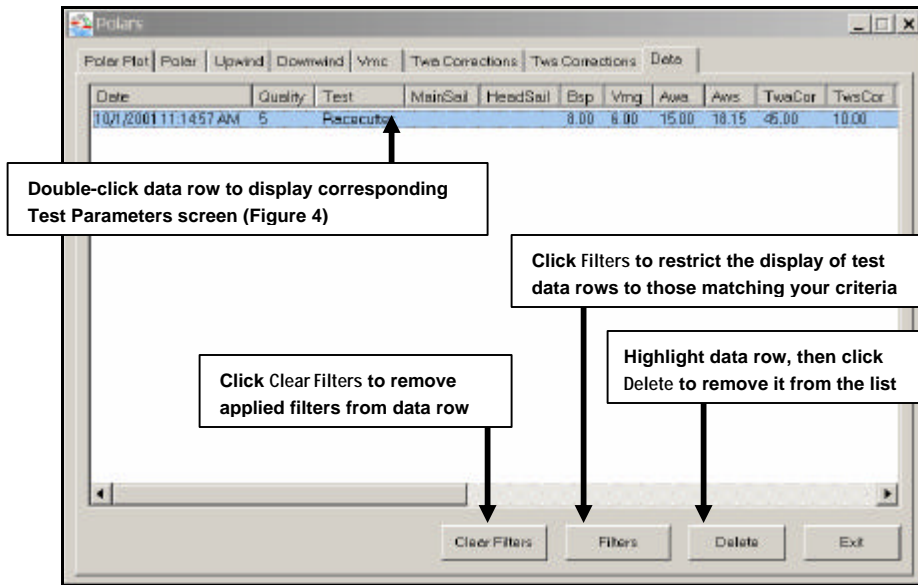

Figure 5-15. Data Tests Screen
1. On the Polars screen, click the **Data** tab. The Data Tests screen is displayed (Figure 5-15). This screen initially contains a single row of test data; however, you can store and edit as many different test data rows as you need, each row representing a unique run and its associated performance statistics.